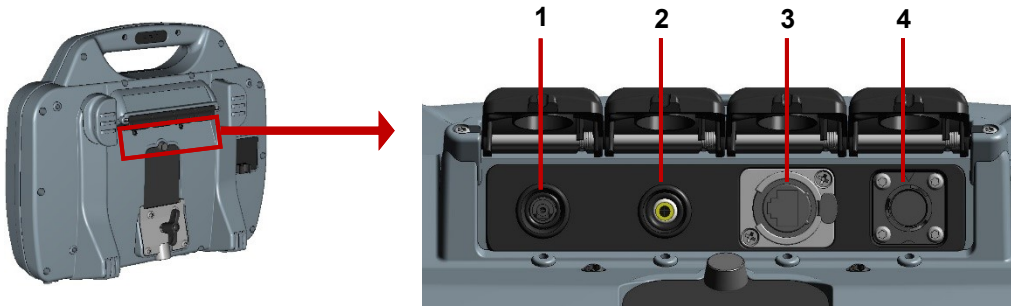

Fig. 3-4: Main connection panel
- b. Connect the pushrod reel to the controller using the link cable (item 4 in Fig. 3-4).
3. Connect the drum to the controller using the link cable (item 4 in Fig. 3-4).